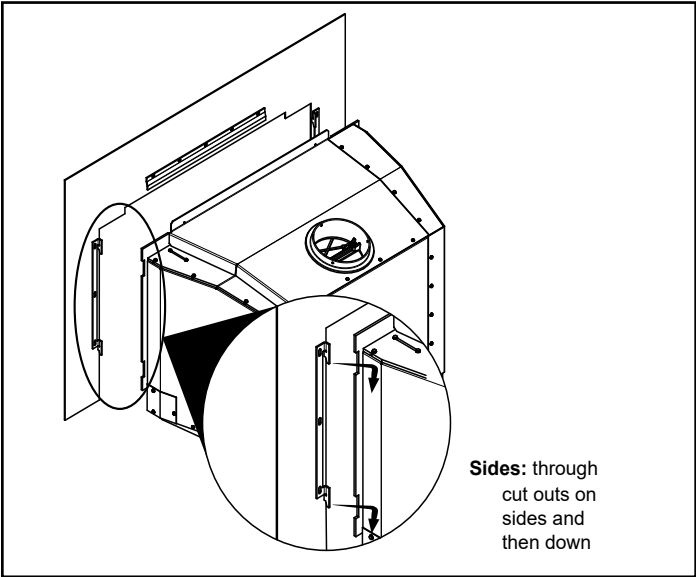

Figure 5.6
1. Lift surround to front of appliance (Figure 5.6)